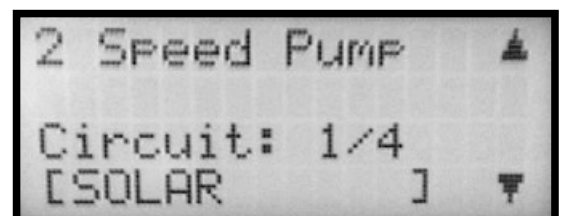

Figure 6.
9. In the solar menu, define all the circuits which require the pump to be in High Speed mode (up to 4 circuits can be defined) as shown in **Figure 6**.